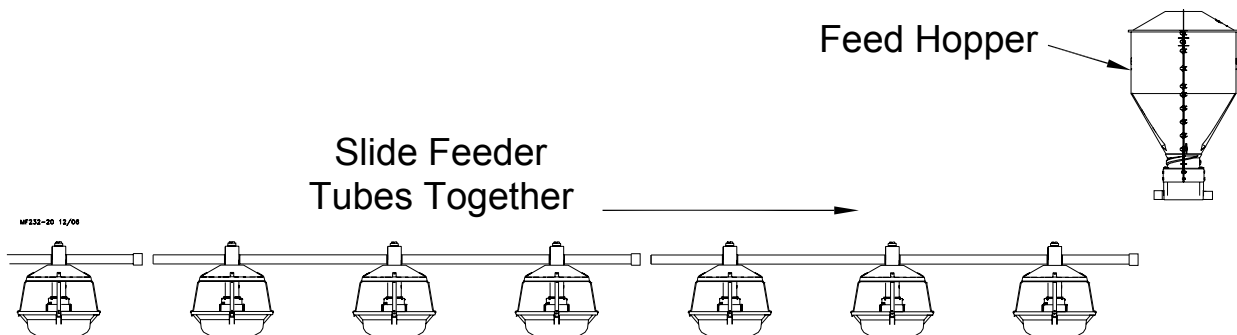

Figure 25. Feeder Line Assembly Procedure
1. The tubes should be laying end to end in approximately the final location of the line. The expanded (belled) end of each tube should be toward the hopper end to the line, **see figure 25**.